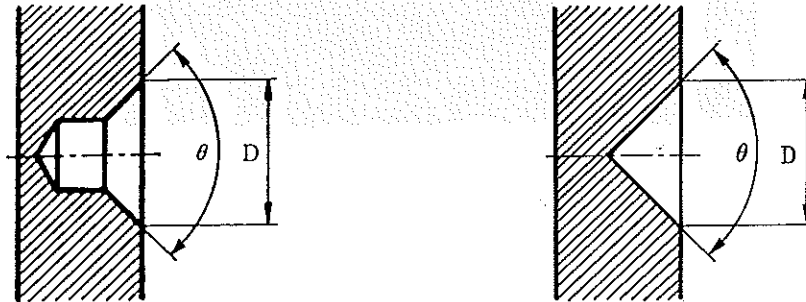

Fig. 5-1
■ C. Ø (D in Fig. 5-1)
■ ANGL (θ - in Fig. 5-1)